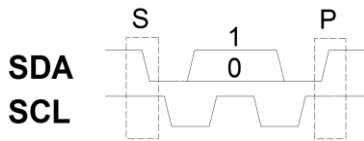

Figure 4. I2C bus protocol definitions
Figure 4 shows the start (S) and stop (P) bits and a data bit. Data must be held stable at the SDA pin
Each serial bus operation, like write, starts with the start (S) bit (see figure 4). After start (S) the MAS6510 device address with write bit (AW, see table 11) is sent followed by an Acknowledge (A). After this the Measurement control register address (see table 1) is sent and followed by an Acknowledge
(A). Next the Measurement control register data (DC, see table 3) is written and followed by an Acknowledge (A). Finally, the serial bus operation is ended with stop (P) command (see figure 4). A new A/D conversion starts right after Measurement control register bits containing SCO=1 are received.